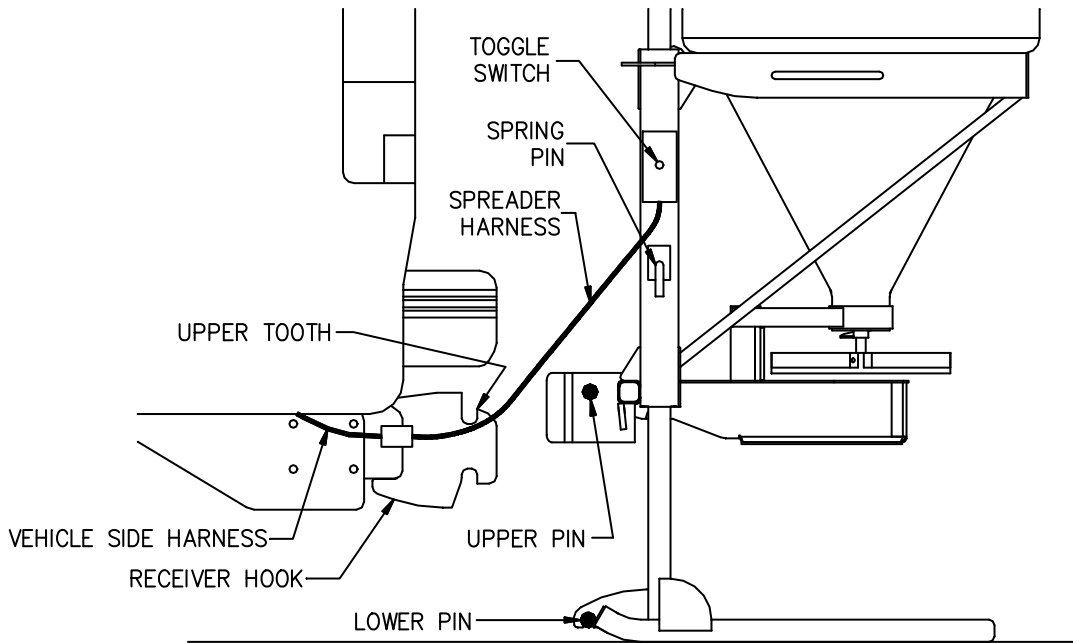

Figure 9.
- 3) Position the spreader in so that it is free from the receiver hook as shown in Figure 9. This can be done by either pulling the truck ahead or moving the spreader by grabbing the handles on the sides.